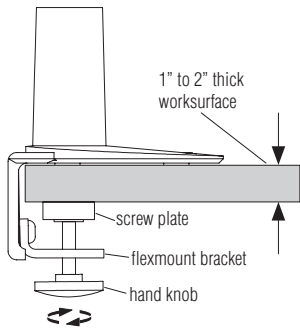

Figure 1
A. Rear-mounted using hand-knob to the back of a 1" to 2" thick worksurface (Figure 1).